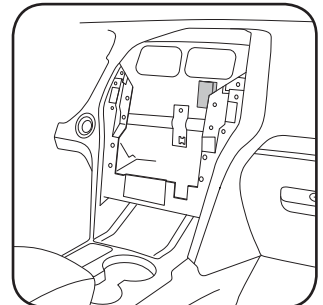

Fig. 1.6
In some cases the heated steering wheel module will need to be relocated. (Fig. 1.6)
6. Relocate heated steering wheel module (if required). (Fig. 1.6)